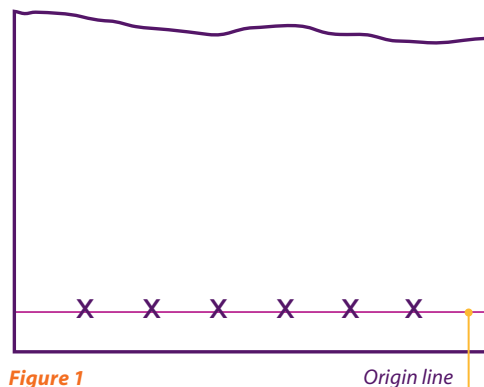

Figure 1
- 2) On a piece of chromatography paper, draw a pencil line 2.5 cm from the bottom edge. It is essential that the solvent level is below this line. Place 6 crosses on the line each 2.5 cm apart (Figure 1). These will be the 'origins' for the amino acid samples. **Wear gloves when handling the paper because sweat contains amino acids which will contaminate the chromatogram.**